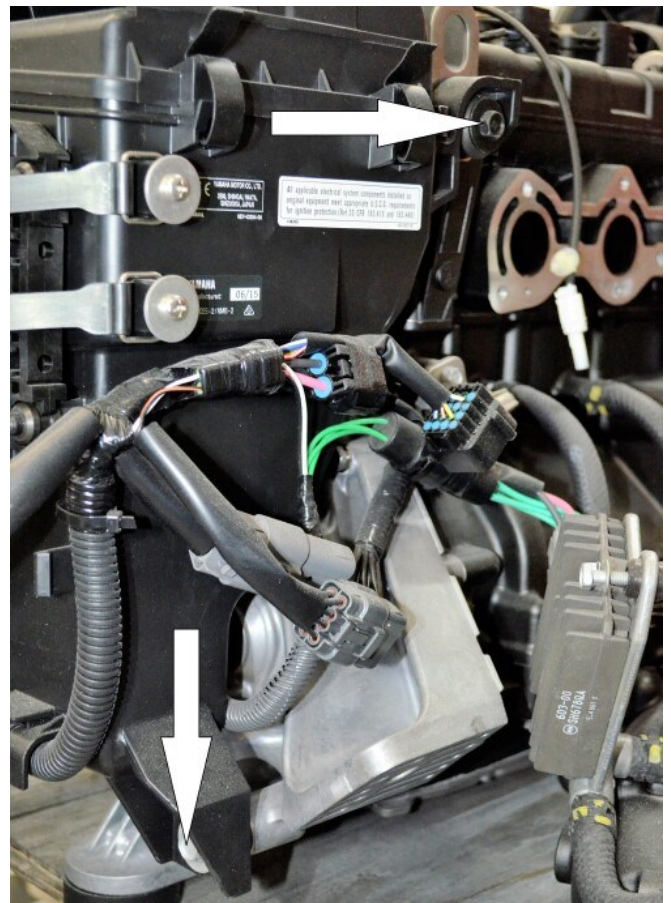

Figure 9
Remove bolts (4) holding air box to engine. **Note: Use caution when removing top air box bolts. Do not allow engine lift-eyes to fall into hull.** There are 2 top and 2 bottom bolts on each side. Only left side bolts are shown below. Right side bolts are in similar location. (Figure 9)